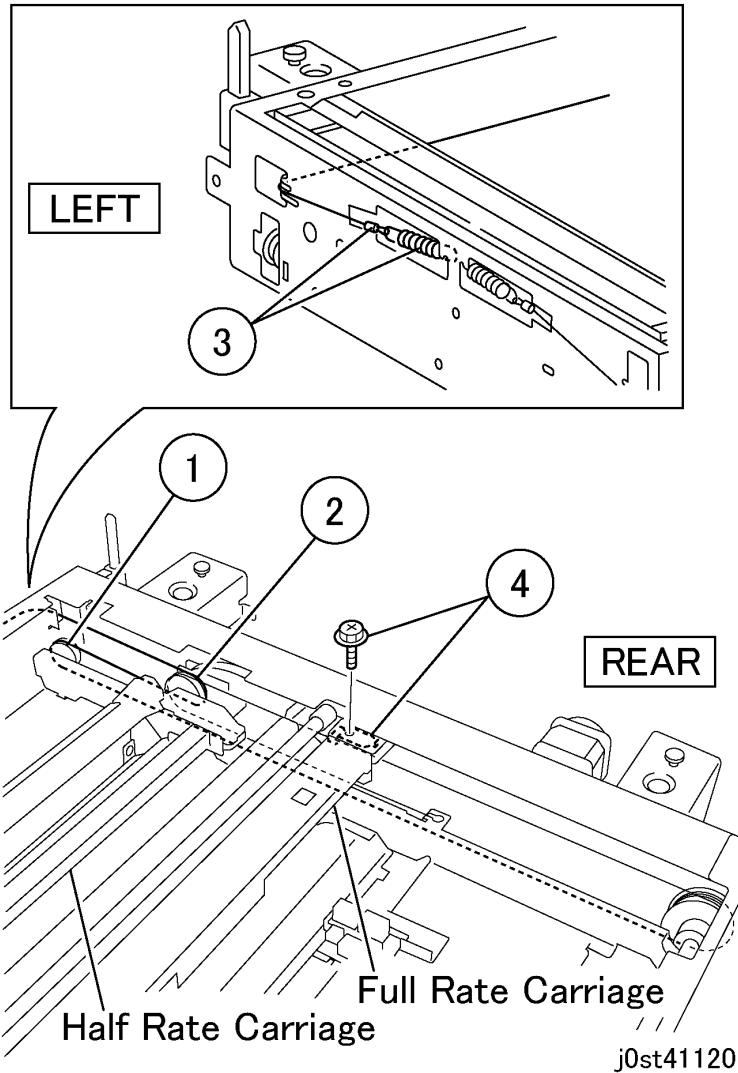

Figure 10 Installing the spring
3. Install the spring end of the Carriage Cable (Figure 10).